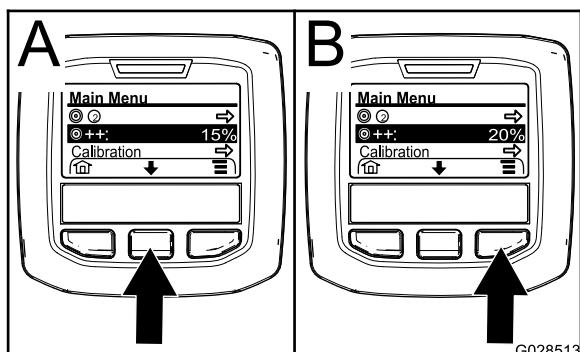

Figure 68
2. If needed, press the center selection button to highlight the application rate boost (Figure 68).
**Note:** The icon for the application rate boost look 2 (+) signs to the right of a bull's-eye target (Figure 68).
3. Press the right selection button (Figure 68) to increase the boost percentage in 5% increments (20% maximum).